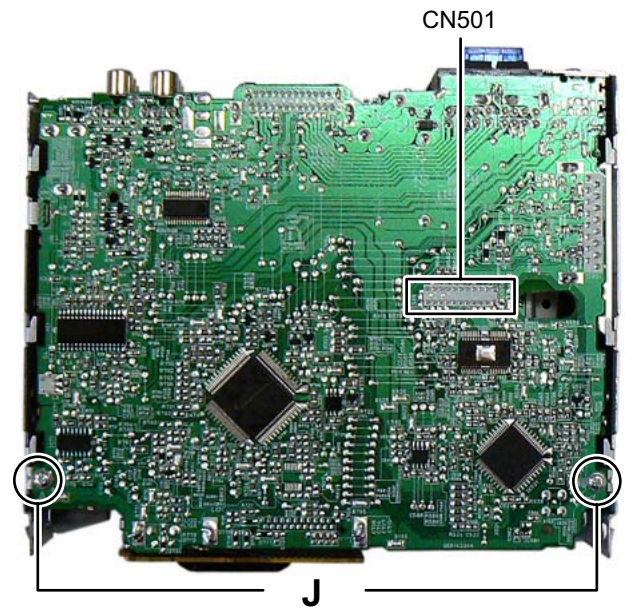

Fig.7
- (2) Disconnect the connector **CN501** connected to MAIN BOARD assembly and CD MECHANISM assembly. (See Fig.7)
### 3.2.5 Removing the clamper assembly (See Figs.7 and 8)